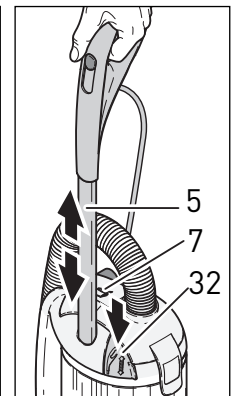

Figure 4
2. Adjust the telescopic handle tube (5) to the correct height by pulling out the handle release lever (32) and gently pulling the tube out to lengthen, or pushing it in to shorten. The tube will click into place when it reaches one of the three lengths available. Release the tab. If the tab does not fit snugly in place, the tube is set at an incorrect setting. Pull or push the tube until it locks into one of the three settings - see figure 4.
Full Bag or Clog Indicator – Figure 4
When a full bag, a clog in the airflow pathway, or an excessively dirty microfilter is detected, an indicator gauge on the bag housing lid (7, figure 4) “fills” with orange color. The user should turn the switch off, unplug the machine and immediately insert a new bag or remove the clog (to remove a clog, refer to the Clog Removal section on page 12). If the airflow is still restricted, the “BAG FULL OR CLOG” indicator will again display orange to indicate a clog. If the clog is not removed, a bypass valve will open to allow more air into the motor compartment to keep the motor cool.